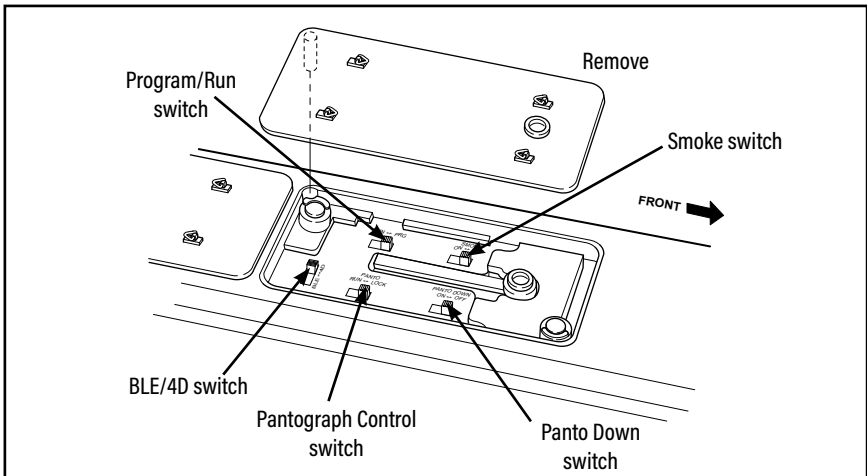

Figure 6. Switch locations (under removable roof panel)
1. Slide the program-run switch on your locomotive to the PGM position. See Figure 6 on page 10.